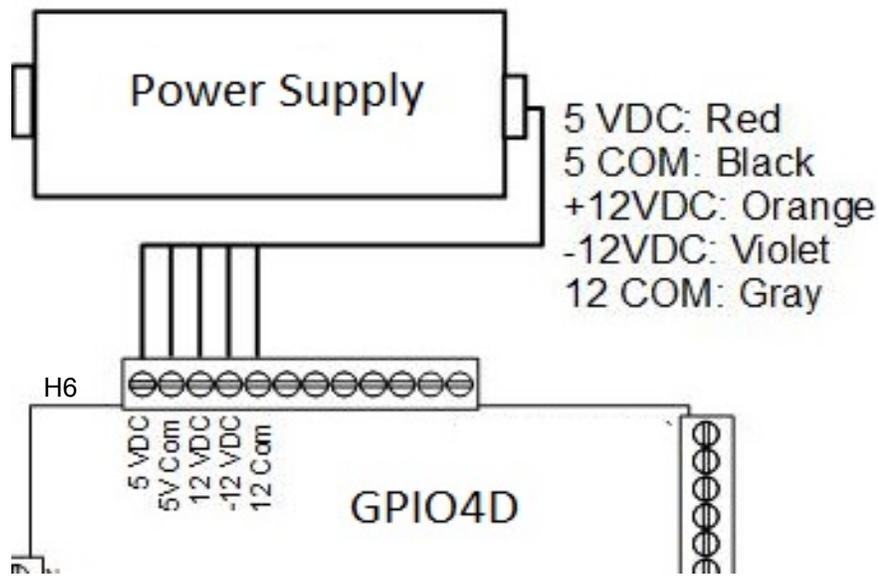

Figure 2.2.5
3. Connect the other end of the power supply DC output cable to the twelve pin terminal block connecting to header H6 as shown below in Figure 2.2.4. and in Figure 2.2.5